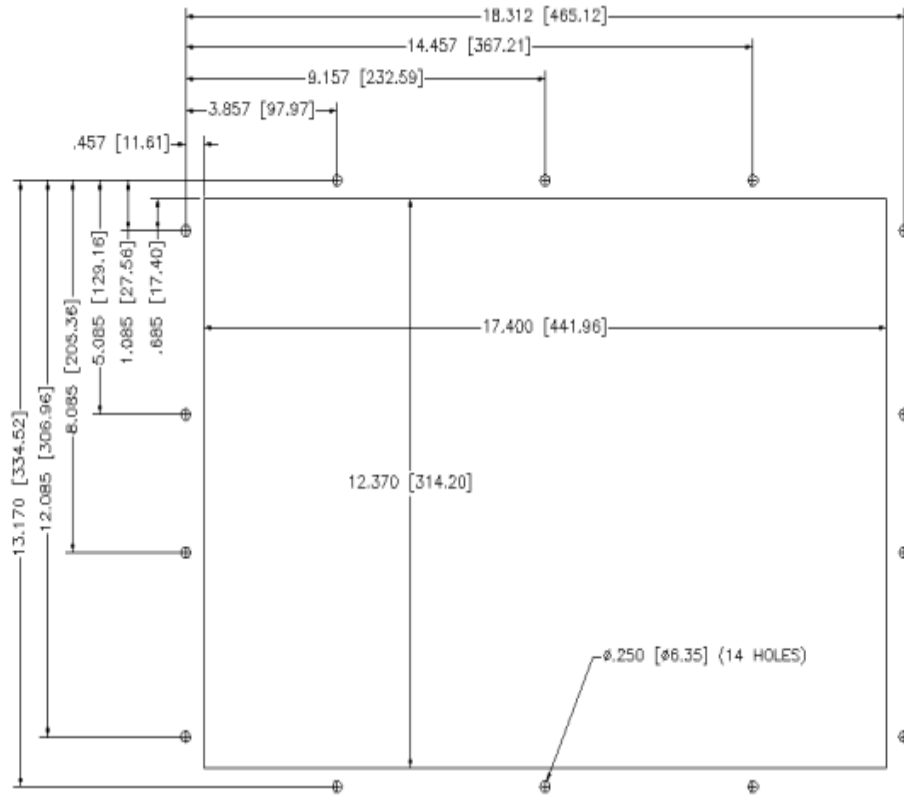

Figure 2-1. 4715T & 4715KPM(T) System Cutout Dimensions (inches [mm])
2. Create a cutout in the enclosure (Figure 2-1, and in *System Cutout Dimensions*).